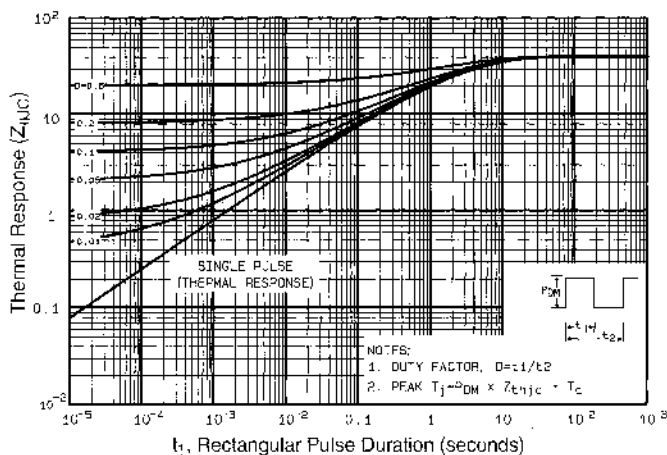

Fig 11. Maximum Effective Transient Thermal Impedance, Junction-to-Case
① Repetitive rating; pulse width limited by max. junction temperature (See Figure 11)
② $I_{SD} \leq 3.3A$, $di/dt < 70A/\mu s$, $V_{DD} < V_{(BR)DSS}$, $T_J \leq 150^\circ\text{C}$